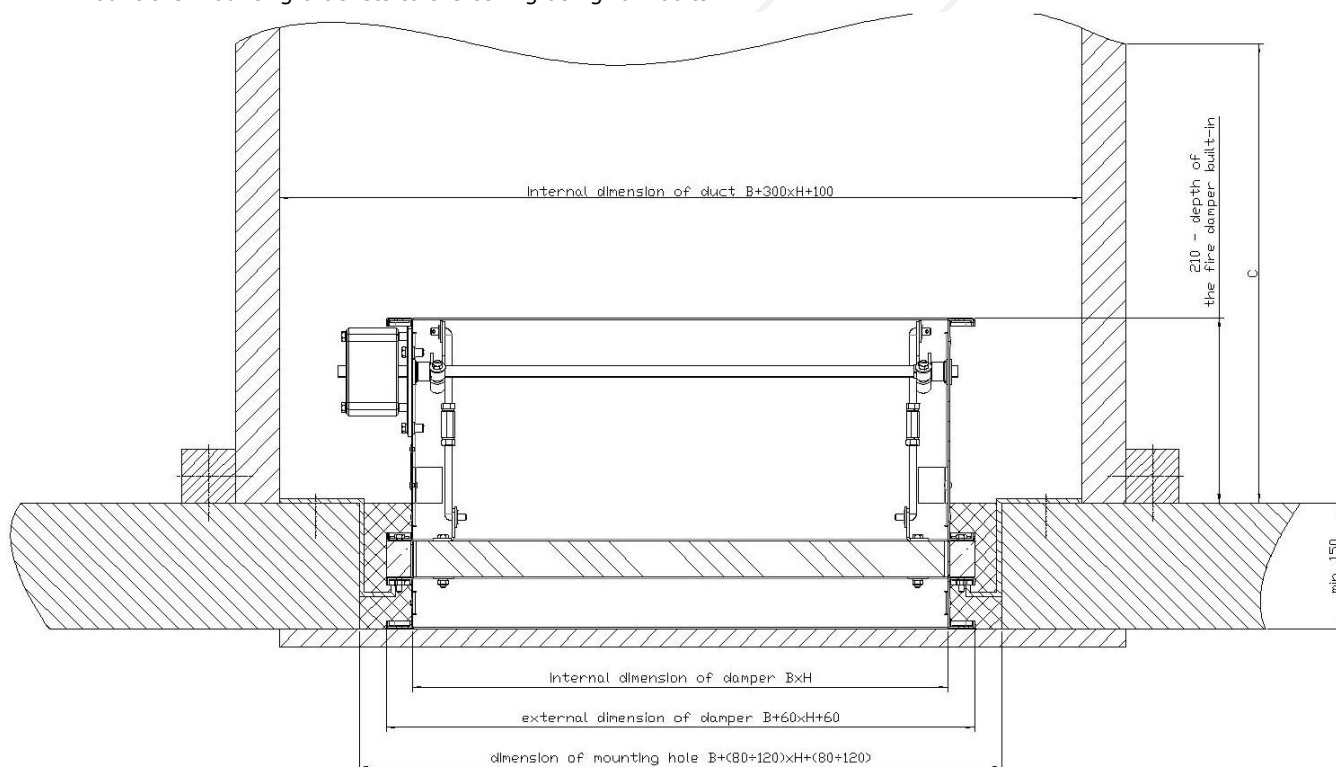

Figure 7. Installation method of fire dampers KWP-O in ceiling with a duct made of PROMAT boards with sealing of mineral wool
- Make an opening in the PROMAT duct with the dimensions allowing for installing connection duct into them. (item 7),
- Connection duct which have been connect with a damper, connect with the duct with using screws and PROMAT L500 AND PROMATECT-H, and insulate according to Fig. 7.